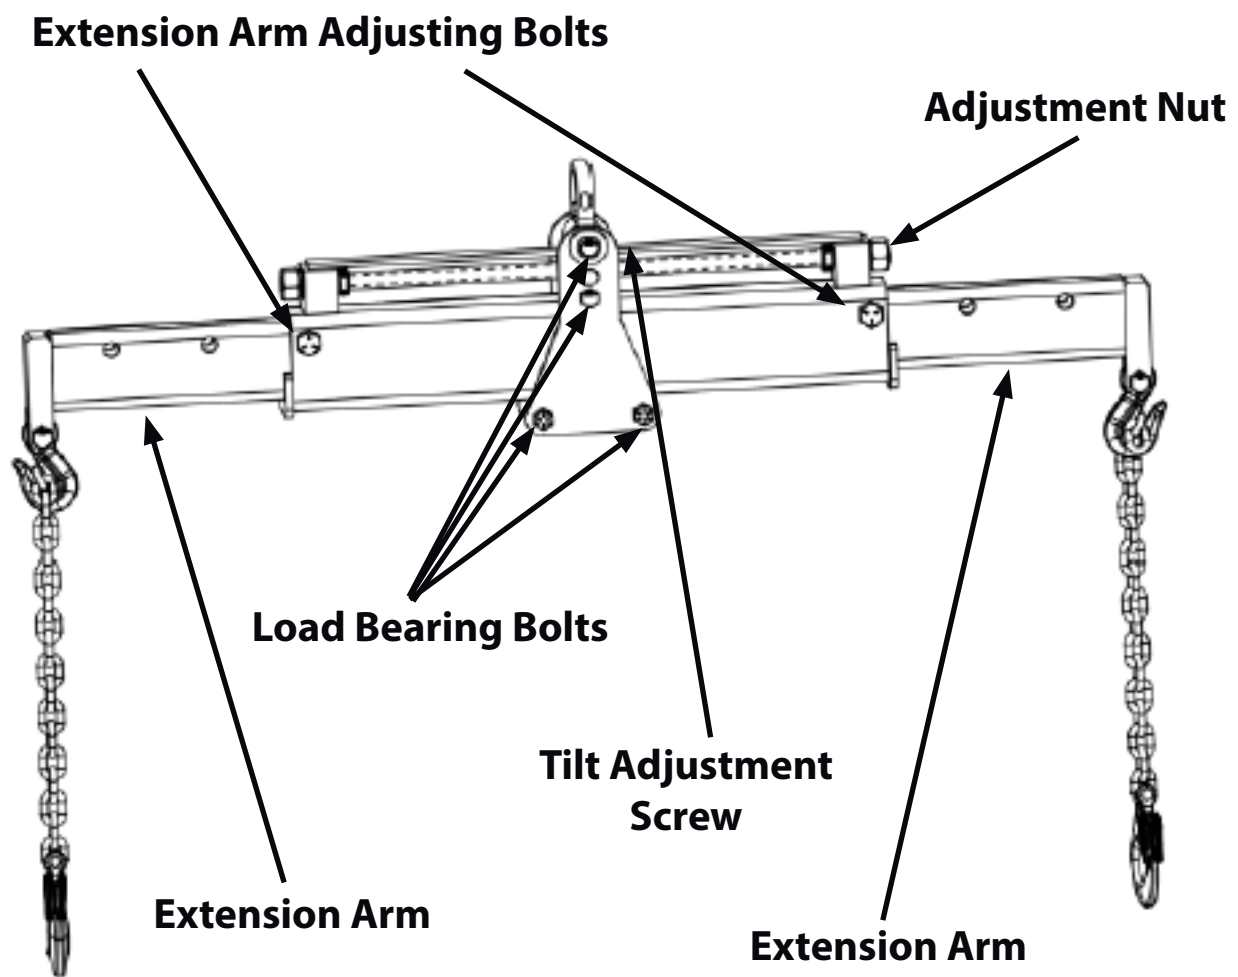

Figure 1
3. Verify the Extension Arm Adjusting Bolts are securely fastened. See **Figure 1**
! DO NOT ever remove or replace any of the Load Bearing Bolts. See Figure 1.
1. For optimal performance of the Tilt Adjustment regularly clean debris from the Tilt Adjustment Screw and lubricate with general purpose grease . See **Figure 1**
2. Ensure the four Load Bearing Bolts are fastened securely. See **Figure 1**